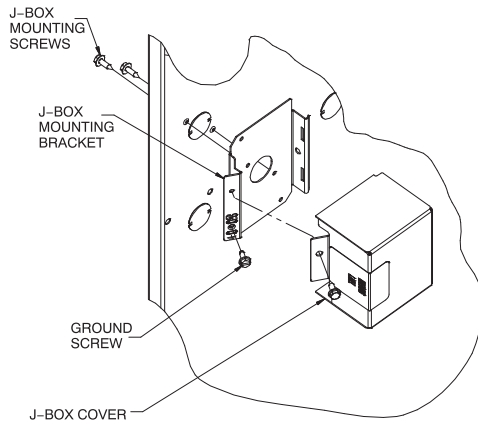

Fig. 34 - Installing J-Box (When Used)
The J-Box cover, mounting bracket and screws are shipped in the loose parts bag included with the furnace. The J-Box can be mounted on the left or right side of the casing, as viewed from the upflow position. See Fig. 34.
Align the J-Box mounting bracket against the inside of the casing and secure the mounting bracket with the screws. See Fig. 34.
6. Connect field ground wire and factory ground wire to green ground screw on J-Box mounting bracket as shown in Fig. 34.
1. Install J-Box mounting bracket to inside of furnace casing. See Fig. 34.
5. Connect field ground wire and factory ground wire to green ground screw on J-Box mounting bracket as shown in Fig. 34.
7. Attach furnace J-Box cover to mounting bracket with screws supplied in loose parts bag. Do not pinch wires between cover and bracket. See Fig. 34.
4. Connect field ground wire and factory ground wire to green ground screw on J-Box mounting bracket as shown in Fig. 34.